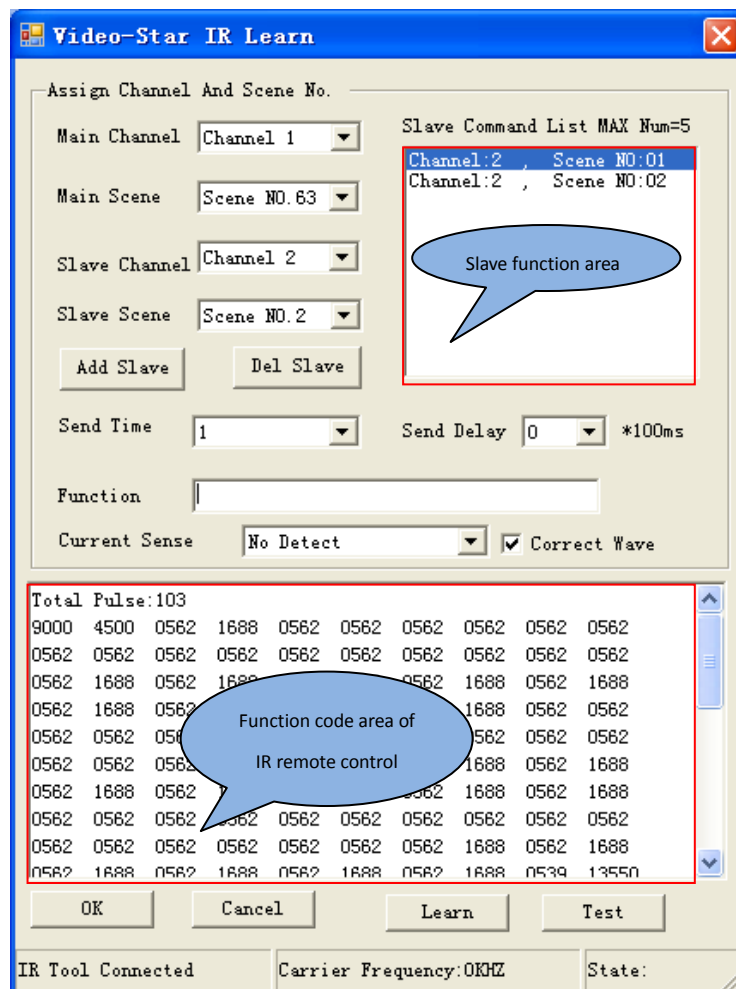

Fig. 6 Learning IR remote control function window
Add new: To add a new function, as shown on fig.6.
All information in the function area can be configured in fig.6. Each function can be configured 64 functions at most, so there are Max. 256 functions in the function area for 4 channels. Meanwhile, each main function can attach up to 5 slave functions which scene number must not to be the same as the main function's.
To learn the control code of common function of IR remote control, as shown on fig. 6. Here can learn and configure all information for the function area via a IR Learner. Clicking the button
1. **Learning:** Click the button “Learn”, right now the button becomes “Learning”, then put the IR detector of Remote Controller as near as possible to the IR detector of the IR Learner, and press the function key of the IR remote control, then in fig.6 the function code area will display the control code information of the function key, such as frequency, pulse count. Meanwhile, the button “Learning” changes back to “Learn”.
In fig .6 Main configuration parameters as follows: